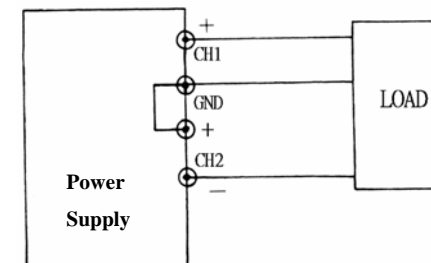

Fig. 5-4 Positive and Negative Supply
- F. If the chassis or common of the equipment being powered is separated from both the positive and negative power input connections, the output of the CH2 (negative) supply tracks the output of the CH1 (positive) supply,. The configuration is shown in Fig. 5-4.